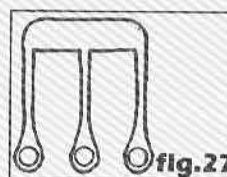

fig.27
1. After the adjustments, make sure that every needle passes through the center of the needle hole in the needle plate, and the gap is even. (fig 27)